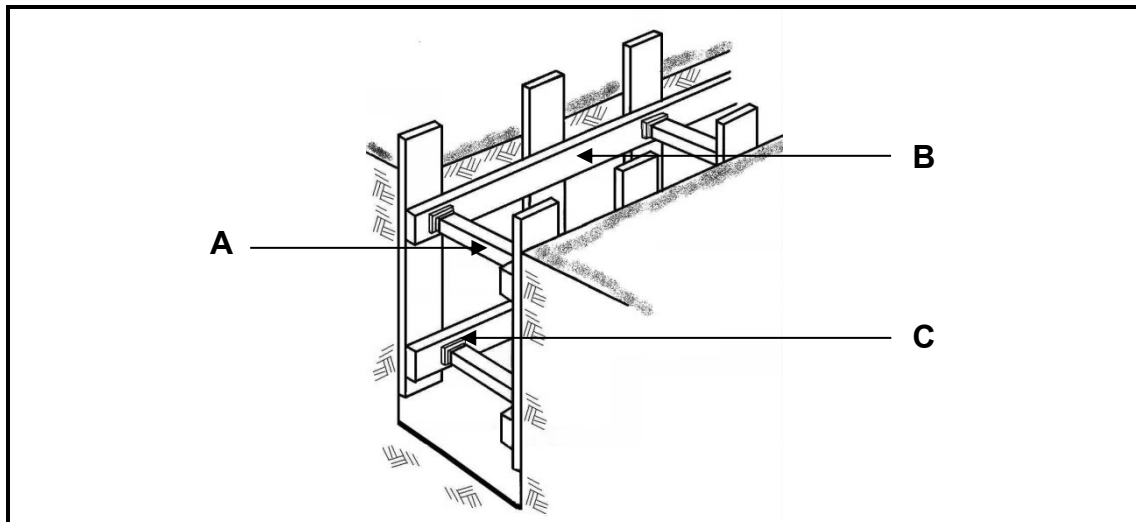

FIGURE 4.11
4.11 Answer the following questions with regard to the shuttering in FIGURE 4.11.
4.11.1 Identify the type of soil in FIGURE 4.11. (1)